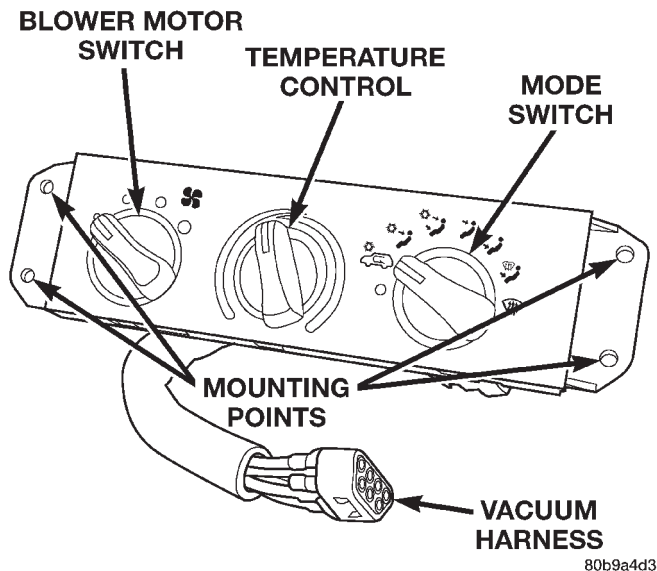

Fig. 38 Heater-A/C Control Remove/Install
- (1) Disconnect and isolate the battery negative cable.
- (2) Remove the glove box from the instrument panel. Refer to Glove Box in Group 8E - Instrument Panel Systems for the procedures.
- (3) Remove the center bezel from the instrument panel. Refer to Instrument Panel Center Bezel in Group 8E - Instrument Panel Systems for the procedures.
- (4) Reach through the instrument panel glove box opening to access and unplug the two halves of the heater-A/C vacuum harness connector.
- (5) Remove the four screws that secure the heater-A/C control to the instrument panel (Fig. 38).